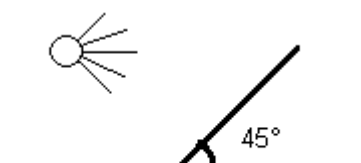

Figure 3: Angle of inclination for solar panel (here 45°)
- Angle: the optimal angle of inclination (see **Figure 3**) is dependent on the latitude of the site. If the data logger is to be used throughout the year, we recommend an angle of inclination for optimal performance in winter: